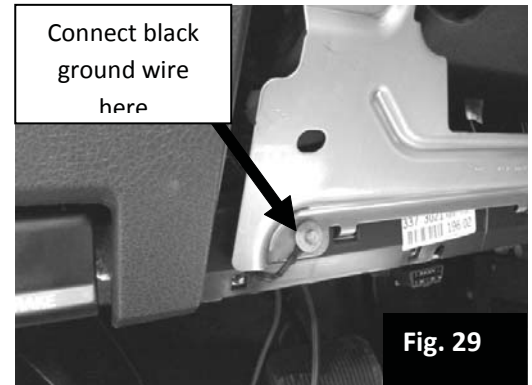

Fig. 29
51. **IMPORTANT:** Ground the black ground wire of the amplifier harness to the lower left bolt securing the metal knee bolster. Torque to 14Nm. Fig. 29